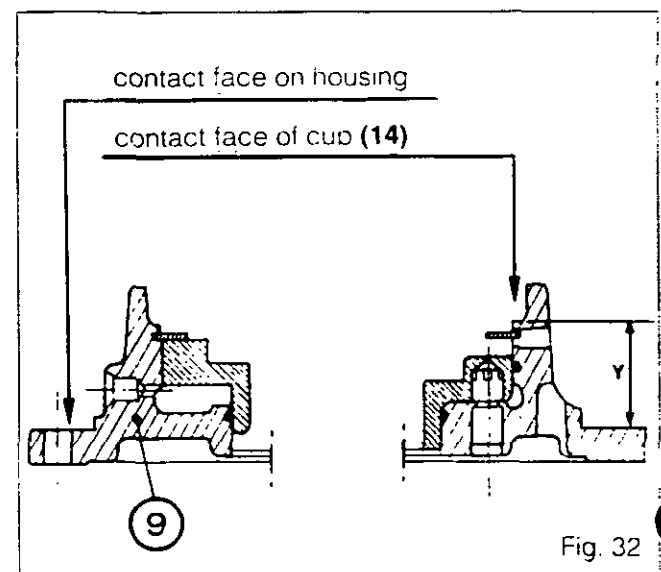

Fig. 32
101. On the carrier (9), determine the distance Y with a depth gauge and a straight edge (Fig. 32).